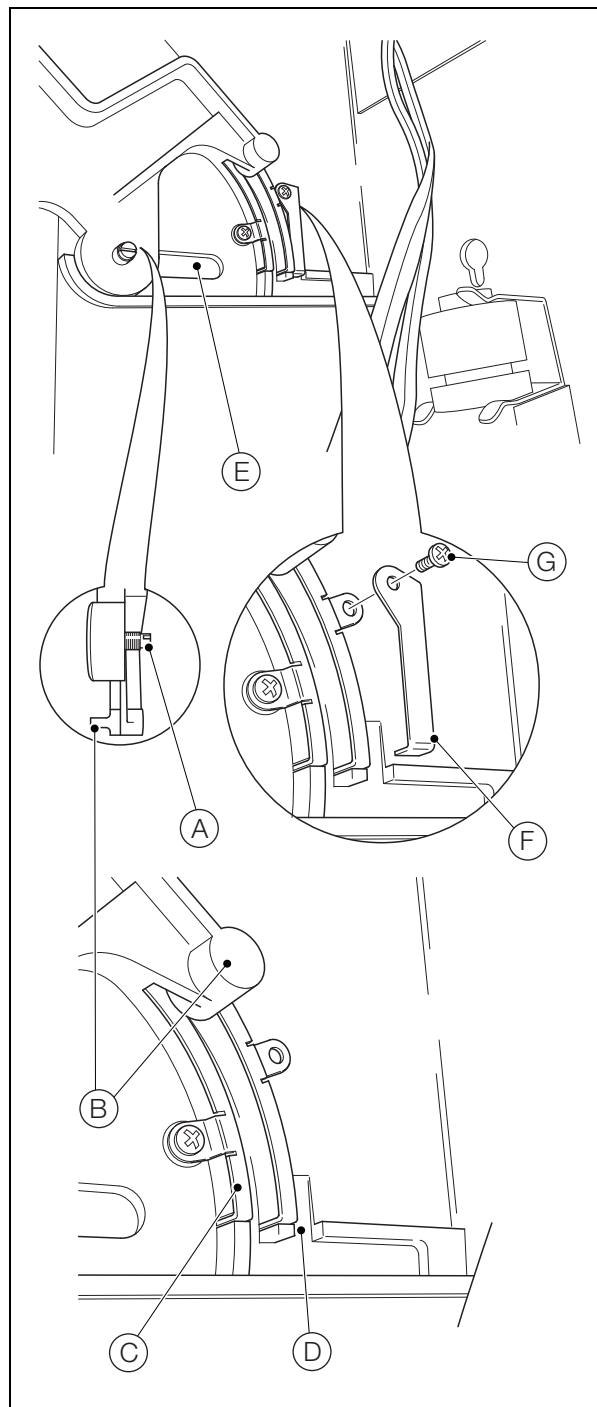

Fig. 4.7 Fitting the Analytical Section
Note. Fig. 4.7 shows the left-hand side of the analyzer case (viewed from the front) but steps a to f apply also to the analytical section fittings on the right-hand side.
1. Referring to Fig. 4.7:
- a. Retract hinge pin (A) as shown.
- b. Carefully insert the analytical section into the analyzer case, ensuring pin (B) is positioned to the rear of track (C) and aligned with the top of slot (D).
- c. Raise the analytical section ensuring pin (B) passes through slot (D) into the track below.
- d. Pull the analytical section forward to position pin (B) beneath track (C), then lower the analytical section ensuring the pin enters the track.
- f. Turn hinge pin (A) clockwise, until it is fully engaged in track (E), ensuring the end of the pin does not contact the analyzer case and that the analytical section is free to rotate and free to move along track (E) without binding in the analyzer case.
- g. Fit the analytical section retaining plate (F), ensuring it is positioned as shown. Secure with screw (G).